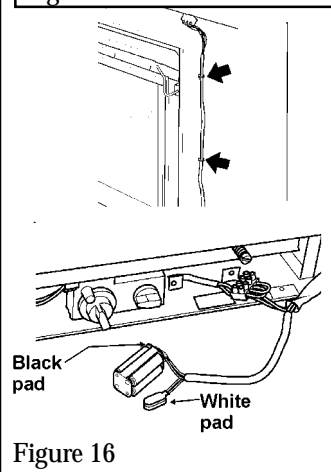

Figure 16
- Connect the battery box to the **black** connection pad. See figure 16.
- Place the battery box on the “Velcro” pad in front of the battery shield. Fit the leads into the clips. See figure 16.